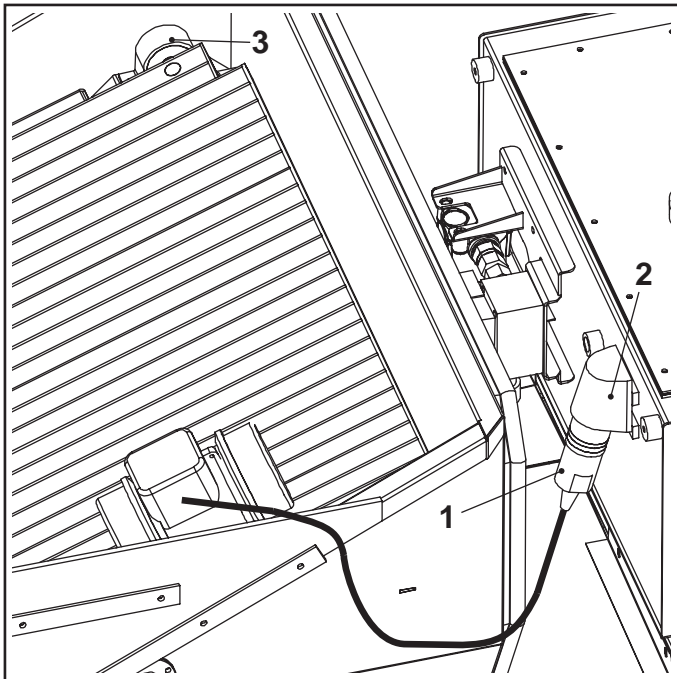

FIG.16
- Connect the electric vibrator's plug (FIG.16-REF.1) to the machine socket (FIG.16-REF.2) located on the hydraulic tank. Close the door after connection.